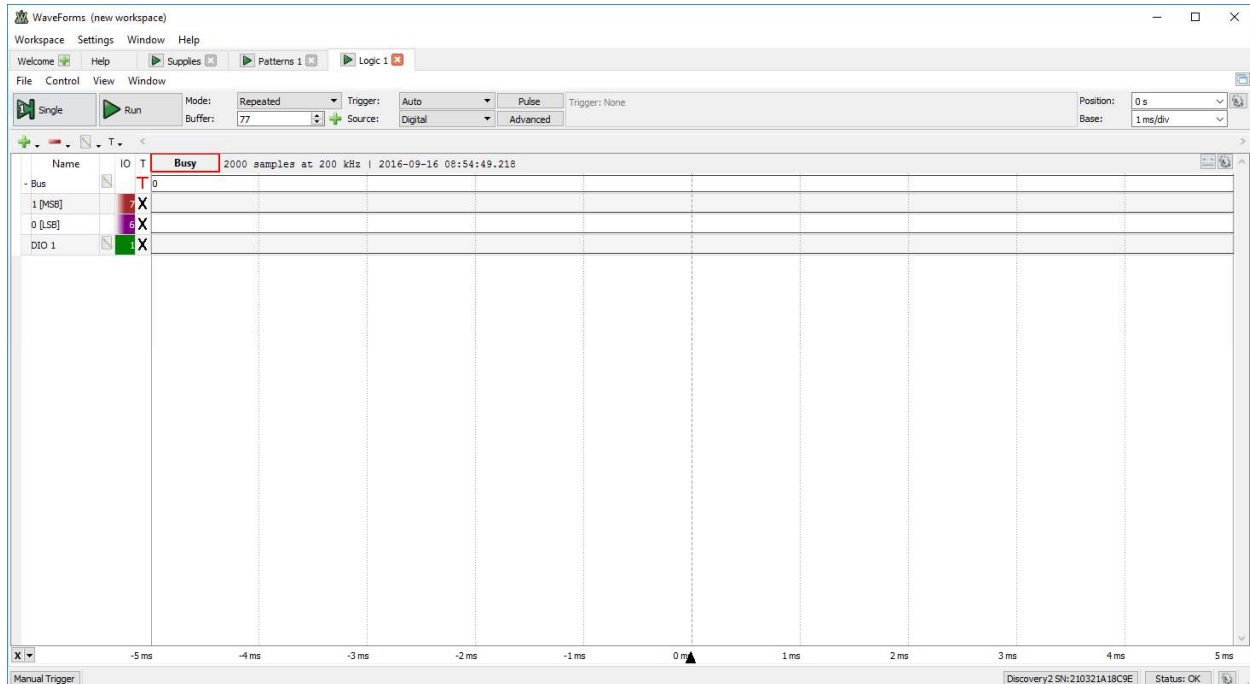

Figure 8: Logic Analyzer Ready to Draw the waveforms it samples at 7408 AND Gate
- j. Compare your work to Figure 8.